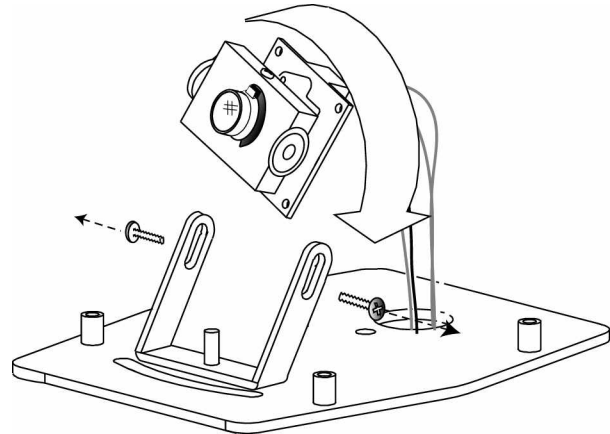

Figure 14. Rotating the camera for street-side orientation
- 2) For cameras mounted on the streetside of the bus or surface-mounted facing backward, remove the two side-set screws, as shown in Figure 14, and lift the camera out of its bracket.
- 3) Rotate the entire camera assembly 180°. See Figure 14.